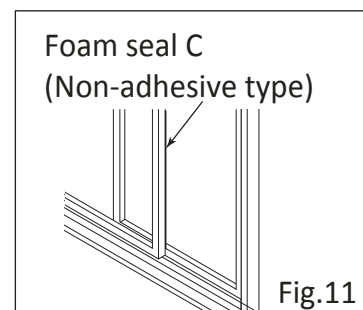

Fig.11
5. Cut the non-adhesive foam seal C strip to match the window height. Insert the foam seal between the glass and the window frame to prevent air and insects from getting into the room.(see Fig.11)